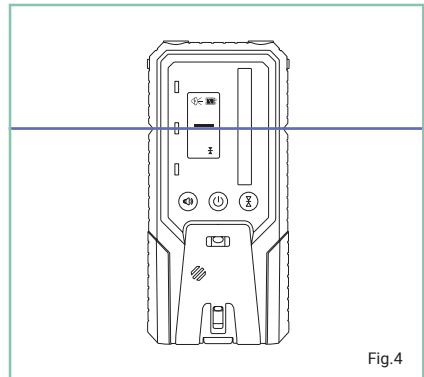
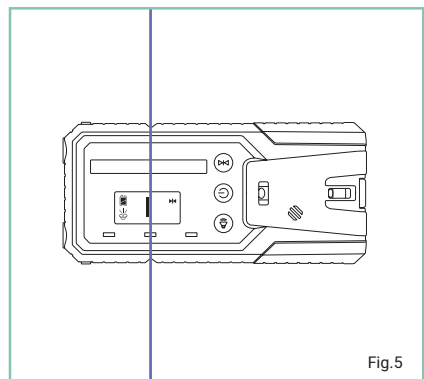

Fig. 4
Fig. 5
- The laser level can now be tilted to the desired angle (Fig. 4). The laser lines will flash every 5 seconds to alert the user that the laser level is in manual mode.
- Hold the detector upright for horizontal beams (Fig. 4). Rotate the detector 90° for vertical beams (Fig. 5).